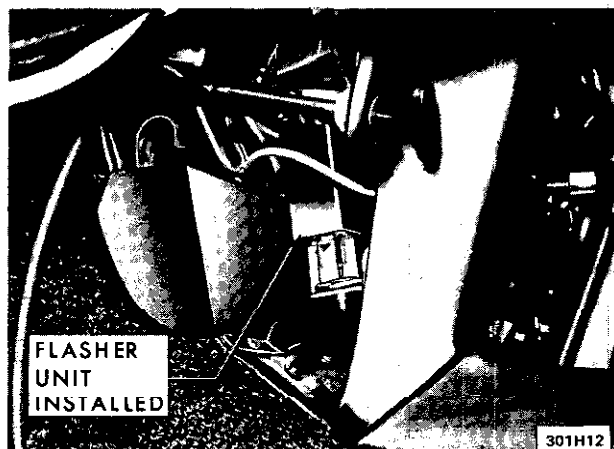

Figure 1H-12 Flasher Unit Installed
4. Remove flasher unit. See Figure 1H-12.